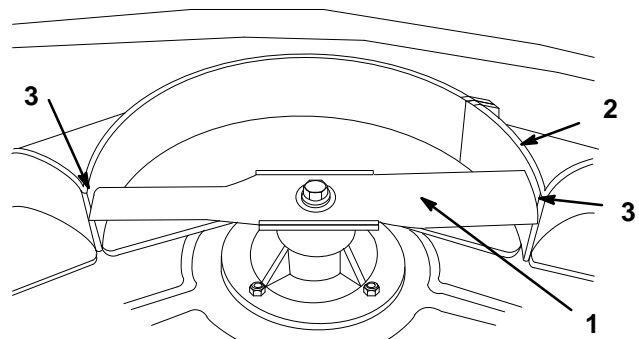

Figure 2
4. Arrange the baffles in the mower and align with holes in deck. Rotate the center blade to ensure that there is a 1/4" of clearance between the tip of the center blade and the baffles (Fig. 2).